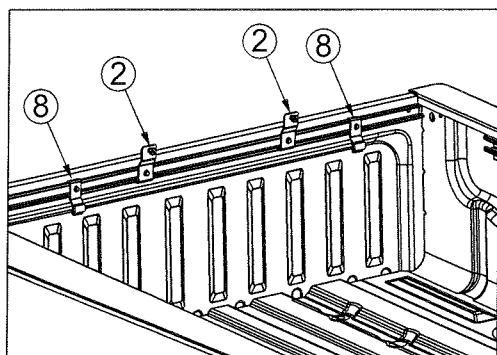

Fig. 7
10. Assemble the Mounting Brackets (#2) and Bump Brackets (#8) to the utili-track on the front of the truck bed. Place the Mounting Brackets (#2) in the approximate position, align the lip of the Mounting Brackets (#2) to the bottom of the channel and hand tighten. Place the Bump Brackets (#8) to the outside of the Mounting Brackets (#2) facing down. Hand tighten. (See Fig. 7)